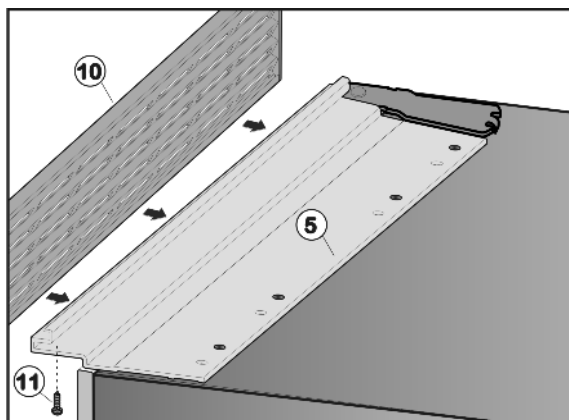

Fig. 31
- Position ventilation grille Fig. 31 (10) over the installation contour Fig. 31 (5) and align it such that the holes in ventilation grille and installation contour are above each other.
- Screw ventilation grille Fig. 31 (10) to installation contour Fig. 31 (5) from below using three screws Fig. 31 (11).